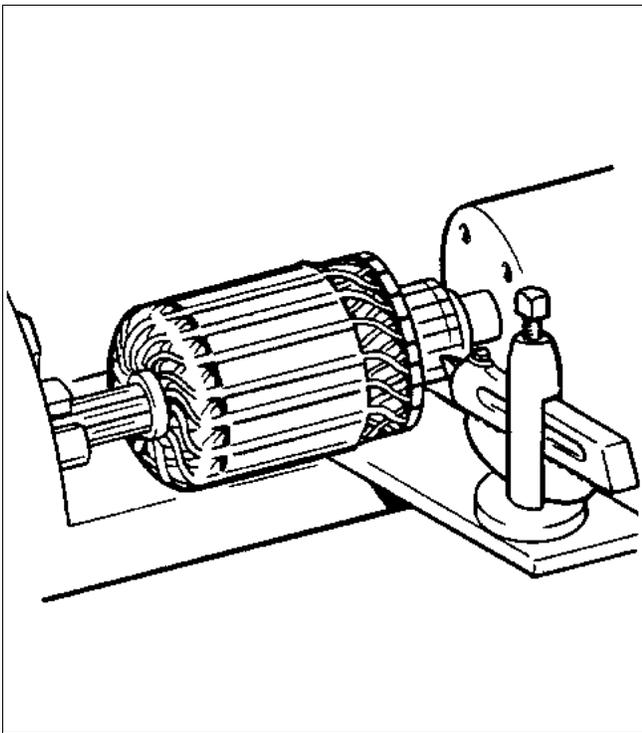

Figure 80-2. Turning Starting Motor Commutator
- a. Check the commutator for uneven wear, excessive glazing or evidence of excessive arcing. If only slightly dirty, glazed or discolored, the commutator can be cleaned with 00 or 000 sandpaper. If the commutator is rough or worn, it should be turned in a lathe ( ref. Figure 80-2 ). The armature shaft should be inspected for rough bearing surfaces and rough or damaged splines.